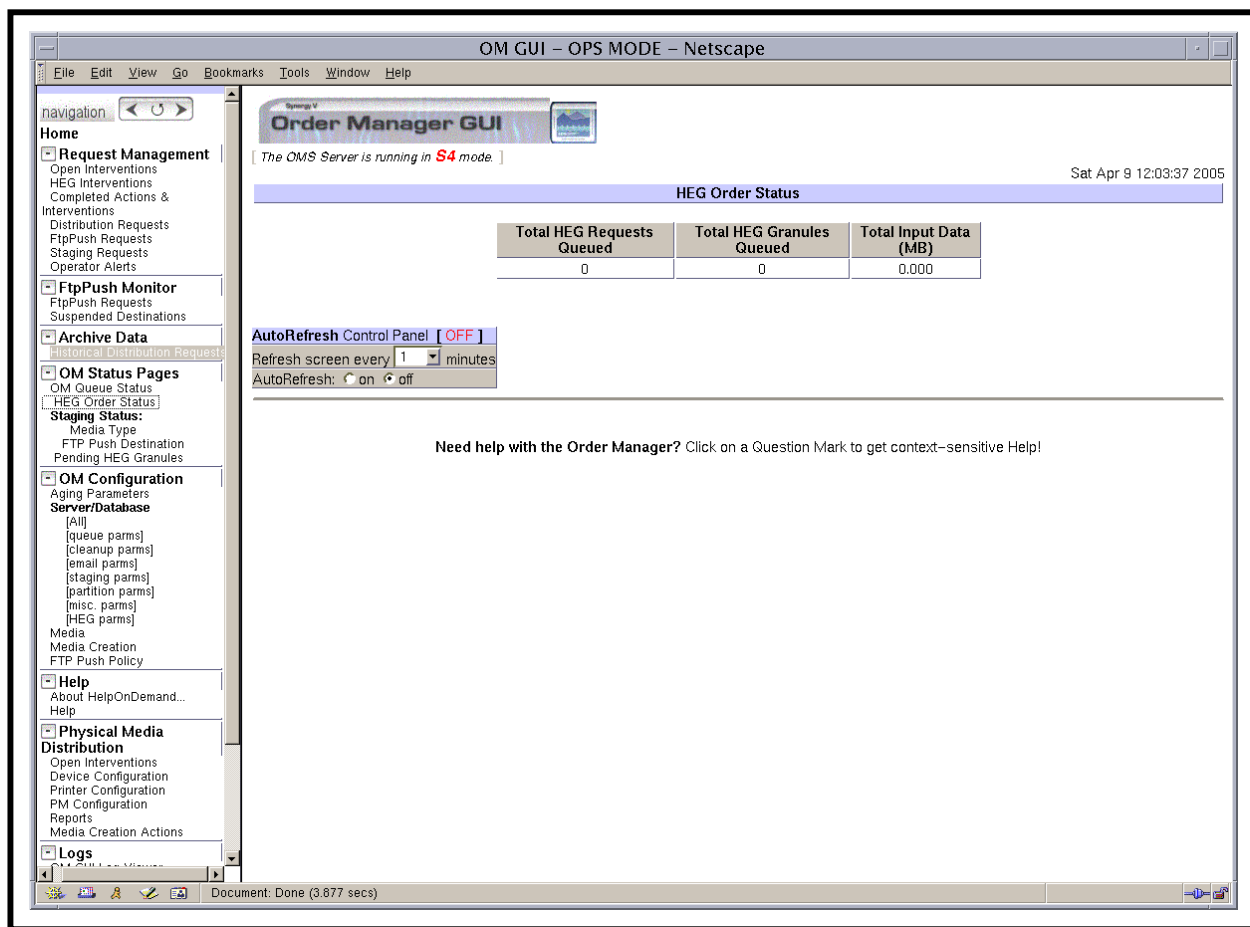

Figure 57. HEG Order Status Page
- 2 If the **HEG Order Status** page (Figure 57) is not already being displayed, click on the **HEG Order Status** link in the navigation frame of the **OM GUI**.
- The **HEG Order Status** page (Figure 57) is displayed.
- **Total Input Data (MB).**